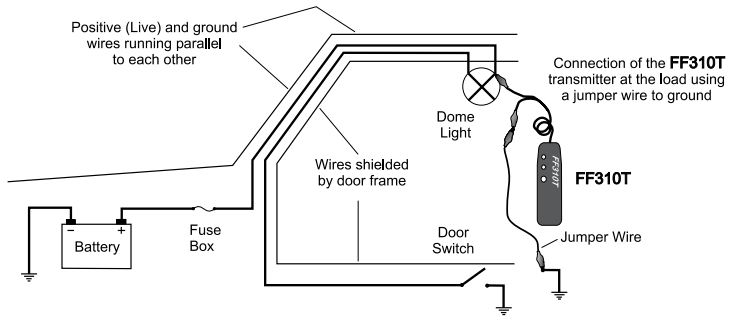

**Fig. 8 - Tracing Wires inside bundles and conduits**
- To avoid following the wrong path, which could happen if the FF310R's sensor picks up the signal from the other nearby branch of the circuit, the branches should be swept maintaining the sensor outside the apex area between the split, as shown in Fig. 8.